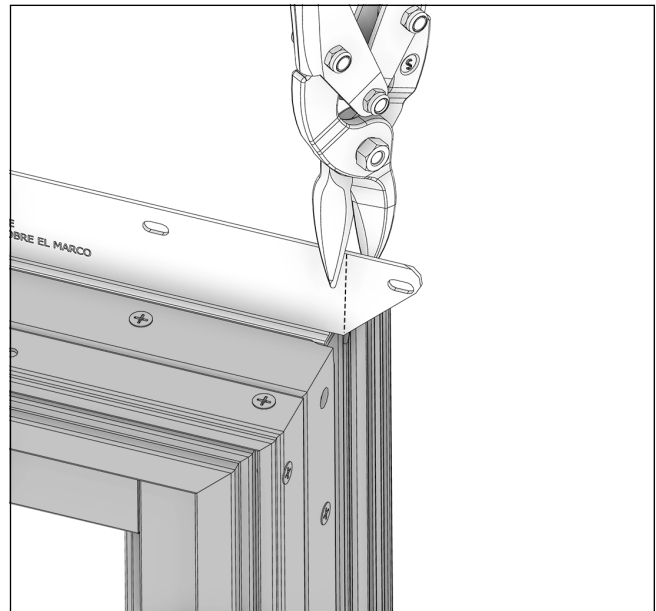
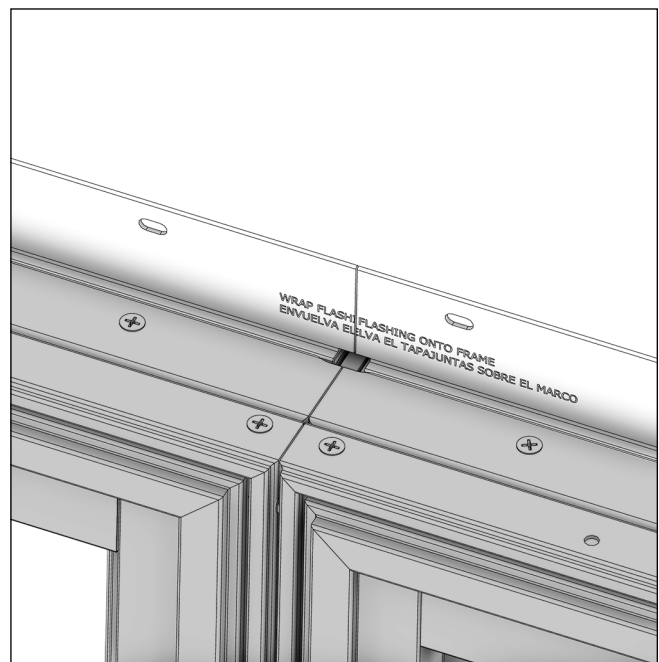

Figure 26 Trim mounting flange
Figure 27 Trim joined mounting flange
2. Mounting flange will need to be trimmed to fit assembly. (Through jamb and masonry installations might not include mounting flange.) See Figure 26 and Figure 27.